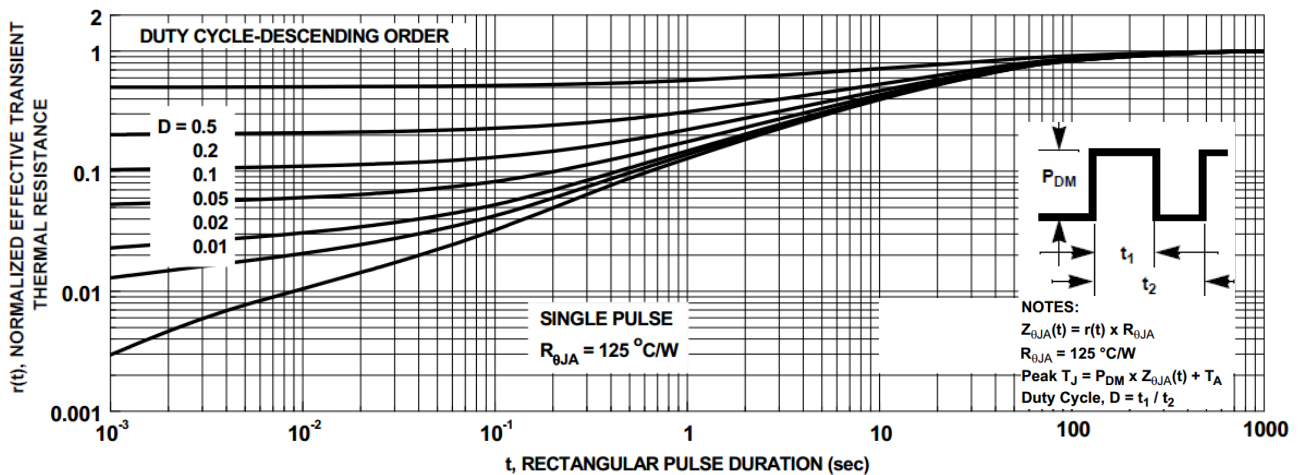

Figure 10. Junction-to-Ambient Transient Thermal Response Curve
The steady-state thermal resistance values are not enough to find a peak junction temperature in terms of pulse driven applications. Figure 10 provides the normalized effective transient thermal resistance, $r(t)$, as a function of the rectangular pulse duration at a given duty cycle. As the duty cycle and the pulse duration increase, the transient thermal impedance gets close to 1. This means the transient thermal resistance approaches steady-state resistance. It calculate the transient thermal impedance, $Z_{\theta JA}(t)$, which is used to estimate the junction temperature, T_J , resulting from a transient power dissipation by using Equations (6) and (7):
For example, when FDMS86101A is conducting during 1 ms out of the 2 ms period which is the 0.5 duty cycle, the $r(t)$ from Figure 10 is 0.5. The junction-to-ambient thermal resistance, $R_{\theta JA}$ on the minimum pad of 2 oz copper is 125°C/W from Table 6. Then the $Z_{\theta JA}(t)$ of FDMS86101A mounted on the minimum pad of 2 oz copper is 62.5°C/W by using Equation (6).